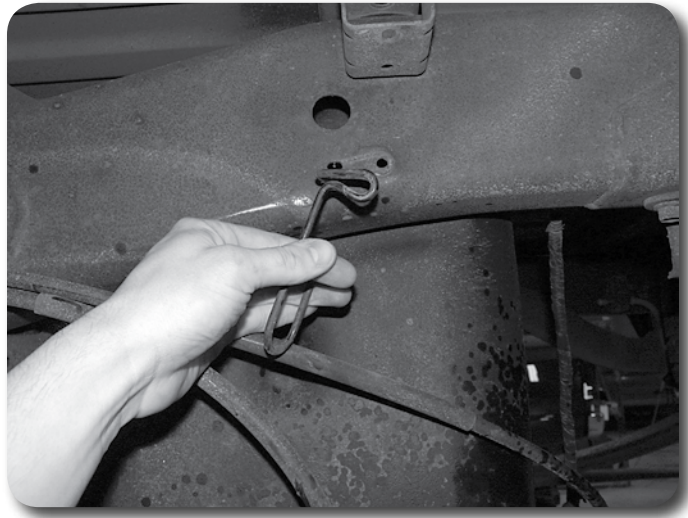

Figure. 19
68. Remove the parking brake cable retaining the ring from the driver's side frame rail **Figure 19**. Remove the driver's side parking brake cable from the ring and reinstall the ring on the frame with the passenger's side cable still in it.